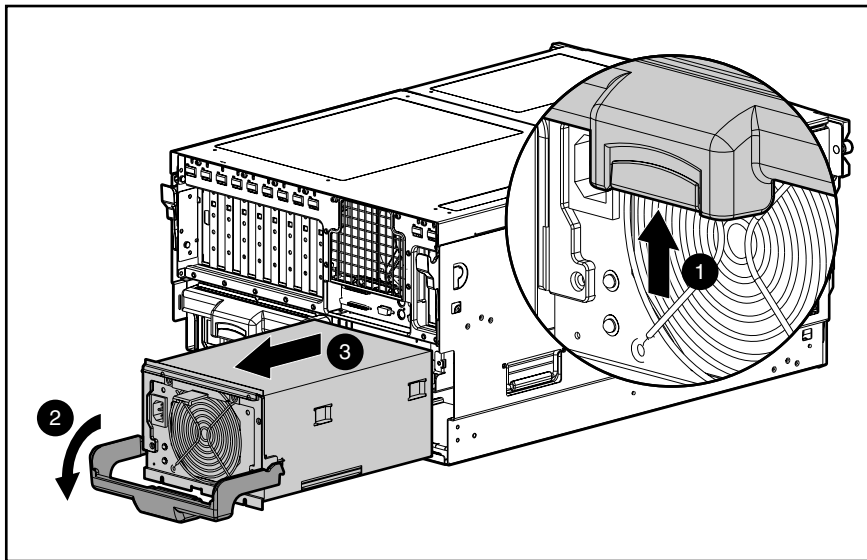

Figure 2-52. Removing a hot-plug power supply
2. Squeeze upward on the release tab in the middle of the power supply handle ❶.
3. Rotate the power supply handle down ❷ and slide the power supply out of the chassis ❸ as shown in Figure 2-52.